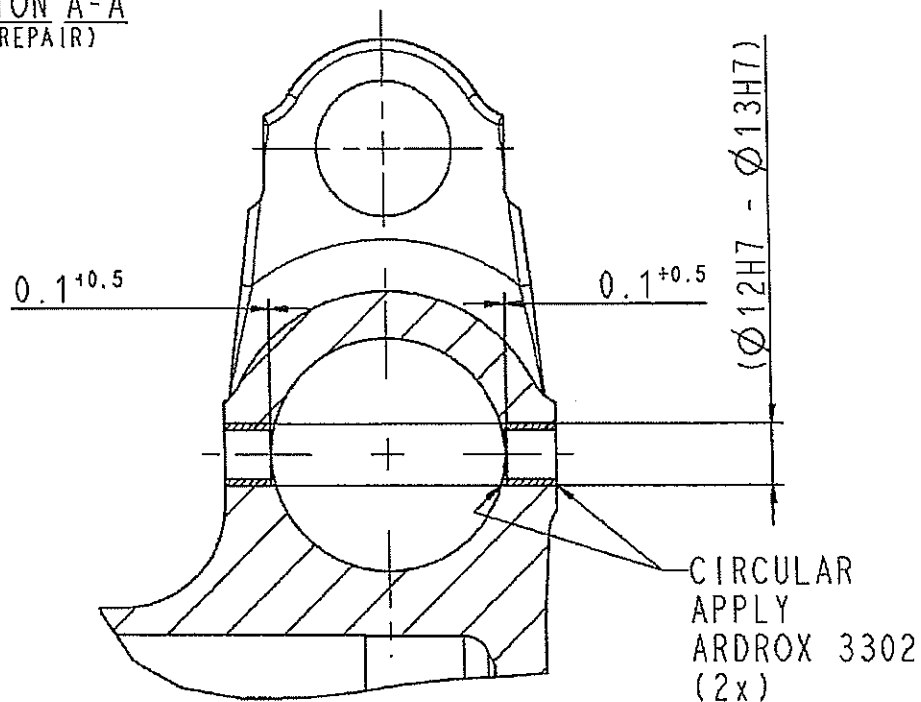

Fig. 7 Installation of bushings
- 2) Take each bush separate out of the liquid nitrogen bath and quickly install it into the hole in Sliding Tube with appropriate heat shrinking standard tools for bush installations. see para 7.2, Fig. 7
see para 7.2, Fig. 7.